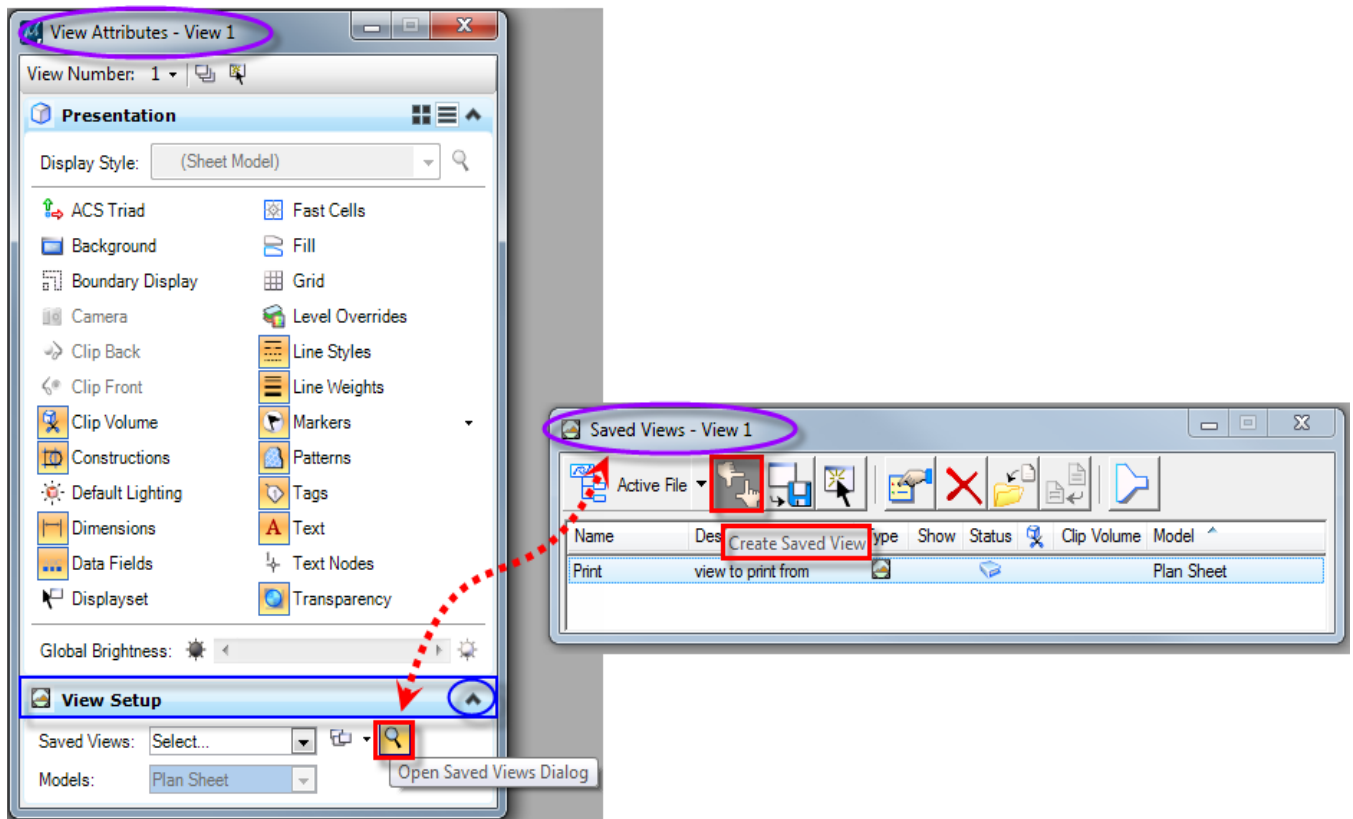
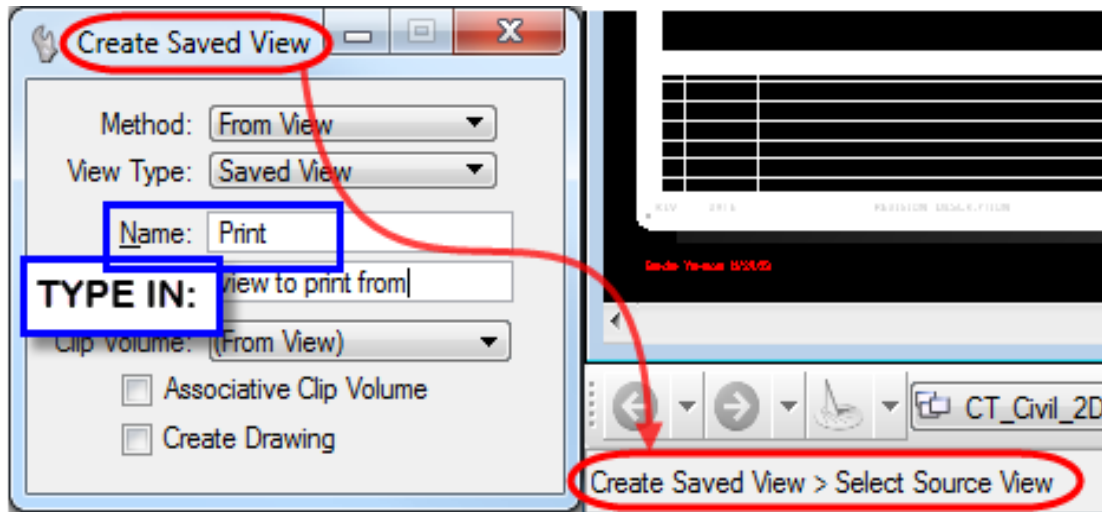

Figure 59 - Saved View Set-up
Figure 60 - Create Saved View
2. Within the View Attributes box **expand View Setup** and click on **Open Saved Views Dialog**, the **Saved Views** dialog box opens (Figure 59).
3. Click on the **Create Saved View** icon (Figure 59). Label and toggle as shown below, Name: Print (as example). See Figure 60.